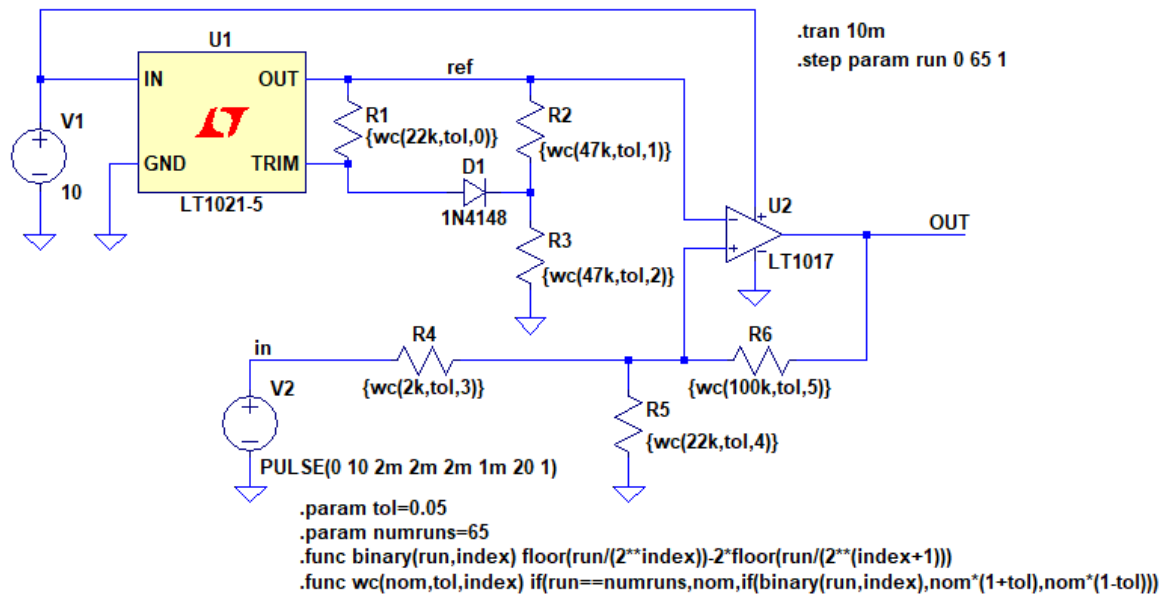

Fig. 9. Diagram of the tested comparator system for WC analysis.
1. Modify the comparator circuit diagram as shown in Figure 9.